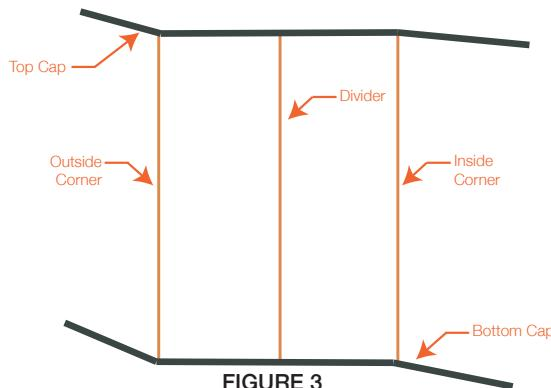

FIGURE 3
4. All divider, inside and outside corner trim is to be measured and cut to install between the exposed edges of the top and bottom cap. Inside and Outside Corner Trim should be secured with self-tapping stainless steel screws. (See Figure 3)
8. Apply adhesive per Manufacturer recommendations [see fig. 3]